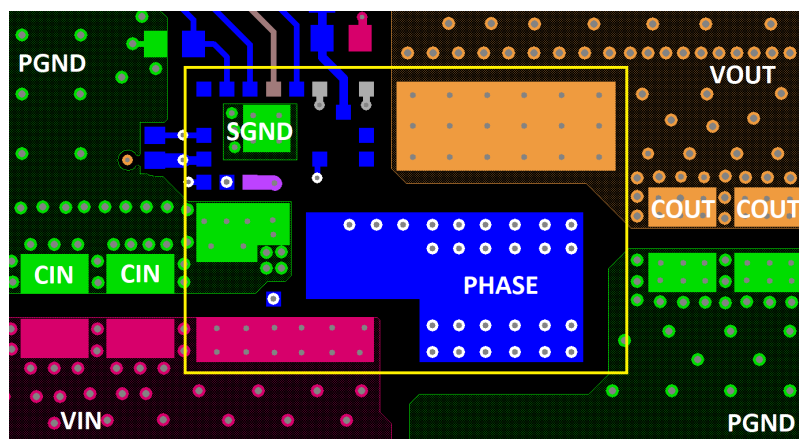

Figure 4. Layout Example - Top Layer
- Place the input capacitors and high frequency decoupling ceramic capacitors between VIN and PGND, as close to the module as possible. The loop formed by the input capacitor, VIN pad, and PGND must be as small as possible to minimize the high-frequency noise. Place the output capacitors close to the load. Use short, wide copper planes to connect the output capacitors to the load to avoid any parasitic inductances and resistances. A layout example is shown in Figures 4 and 5 on page 7.